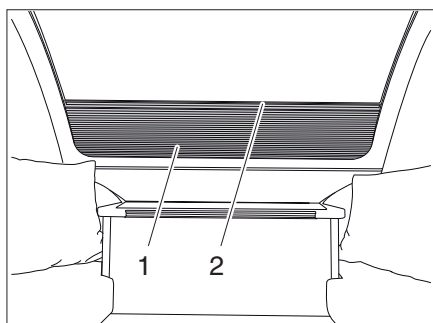

Fig. 42 Bug window blind
- Pull the blind upwards at the notch (Bild 42,2).
- Pull the blind (Bild 42,1) downwards at the notch (Bild 42,2).